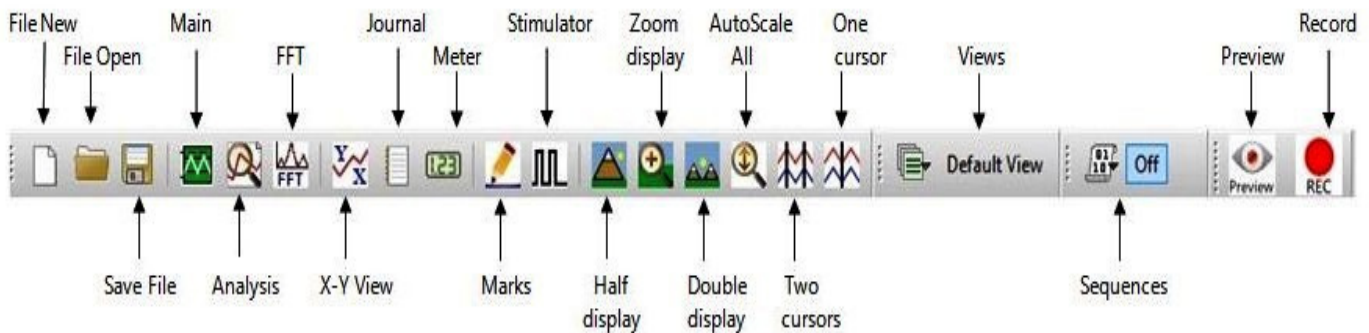

Figure AMe-4: The LabScribe toolbar.
2. Click the 2-Cursor icon (Figure AMe-4) so that two blue cursors appear on the Main window. Place one cursor on the section of data recorded when gas analyzer was collecting a sample of room air and the second cursor on the section of data recorded when the second sample was collected.